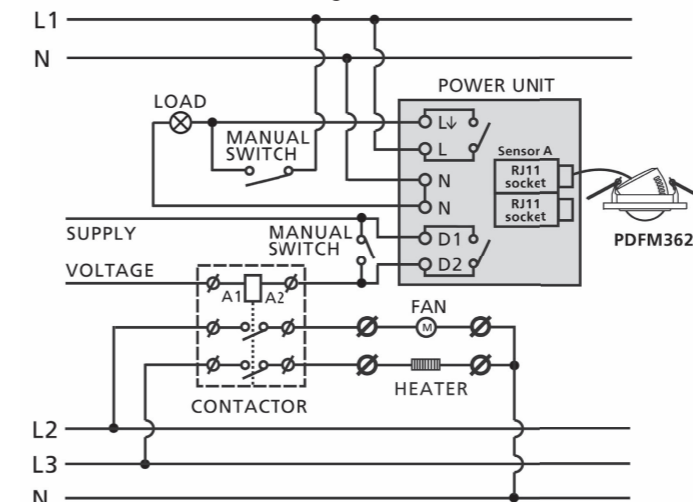

Fig. 3
3.2.1 PDFM362 controller (see Fig.3).